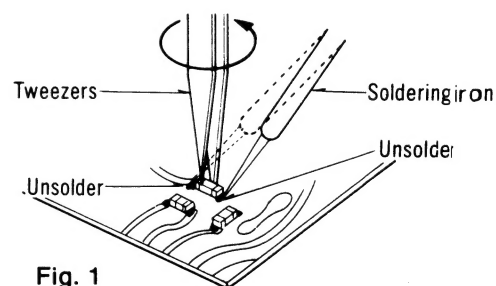

Fig. 1
2. While the chip is hot remove it by turning with tweezers as shown in fig. 1.